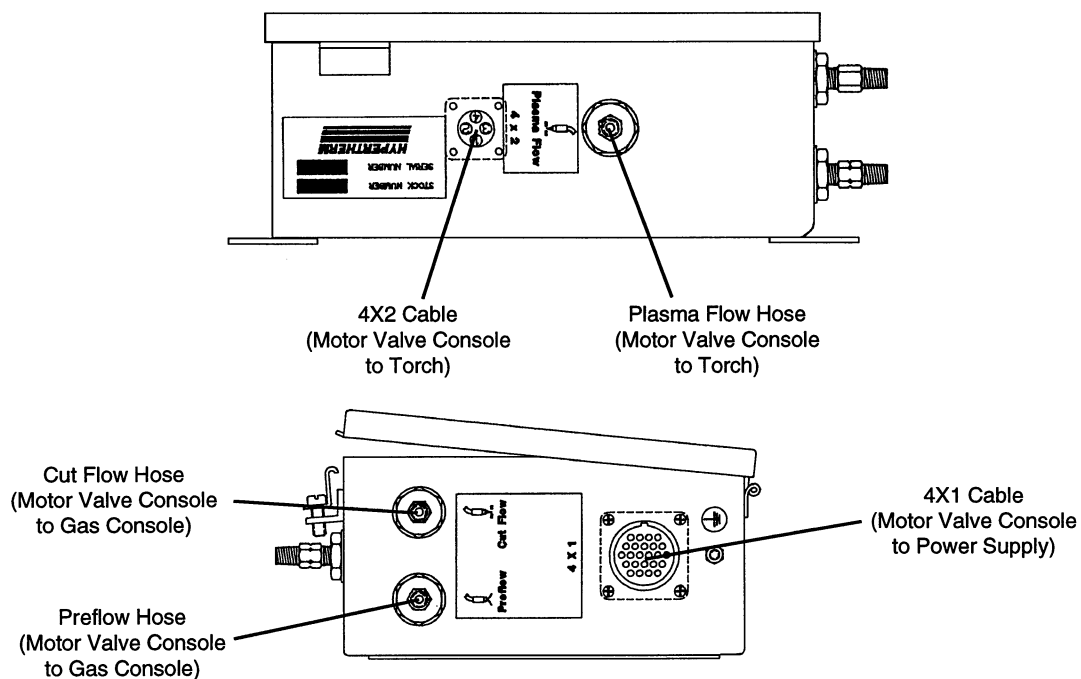

Figure 3 Motor Valve Console Connections (073069 and 073219)
1. Remove all hoses and cables from the 073069 motor valve console. Fig. 3.
2. Attach all hoses and 4X1 cable to the 073219 motor valve console. Fig. 3.